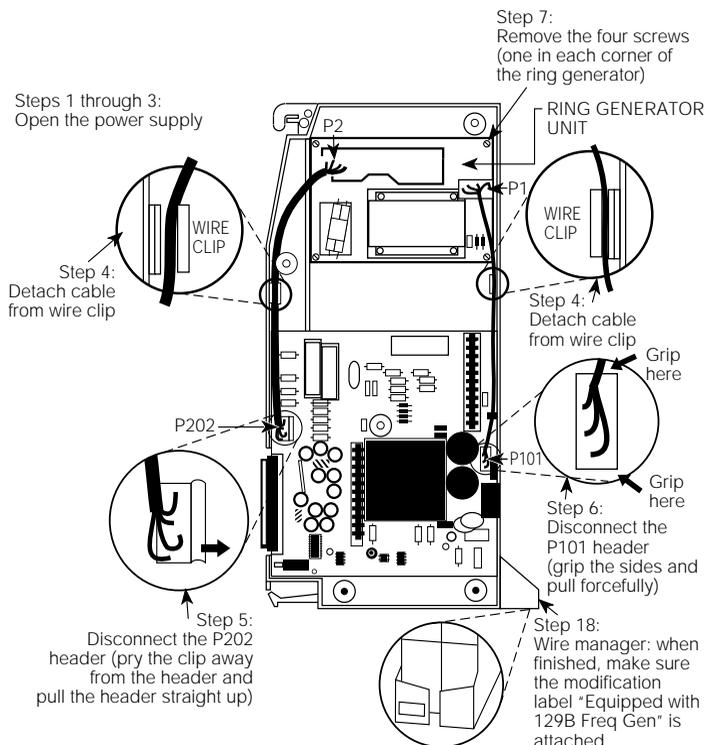

Figure 4-2. Replacing a Ring Generator
To replace the ring generator, follow the steps below. Refer to Figure 4-2 throughout the procedure.
- ▶ **7. Remove the four screws from the ring generator, as shown in Figure 4-2.**
- ▶ **9. Position the replacement ring generator, as shown in Figure 4-2. Align the screw holes.**
- ▶ 18. Verify that the modification label (Equipped with 129B Freq Gen) is attached to the front of the power supply (shown in Figure 4-2). If not, attach the label supplied with the new ring generator.